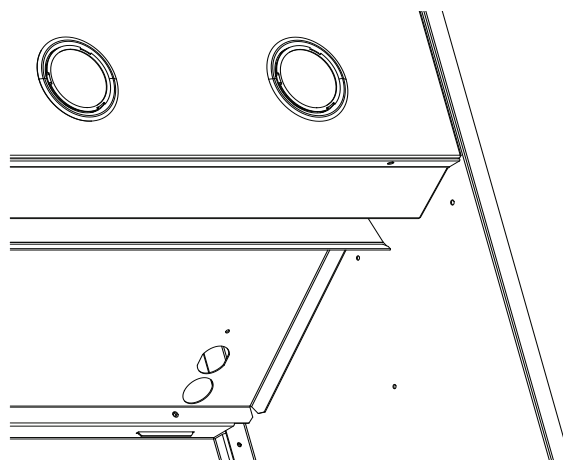

Figure 15: Wire Routing through Partition
- Run harness through core partition hole (*Figure 15*).